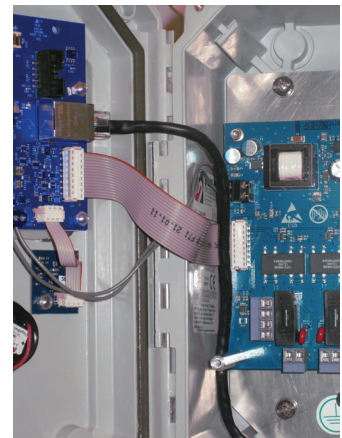

Figure 9 Ethernet Cable Routing
3. Route the cable to the left side of the standoff near the enclosure wall and up to the Ethernet connector (J3) on the Control Board (see Figure 9).